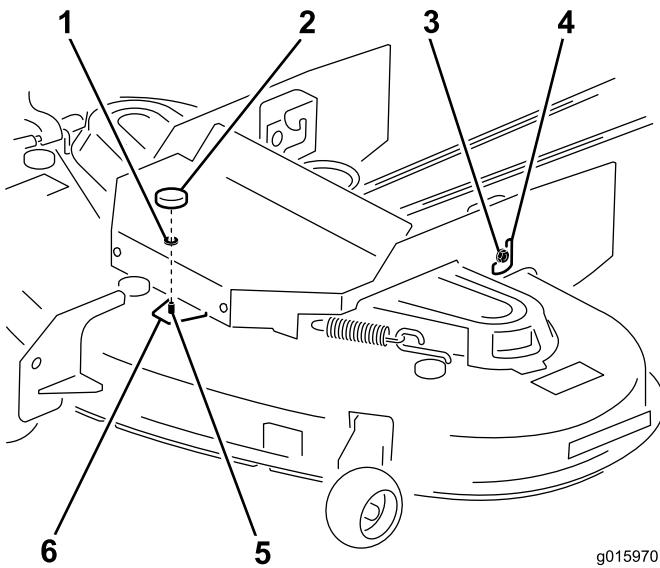

Figure 3
- A. Attach the tab at the front of the guard to the deck using the existing bolt, washer and knob that you just set aside; see Figure 3.
1. Washer, existing	4. Rear slots, pair (2)
3. Flange nut, existing (2)	6. Tab
- B. For each side of the guard, insert the previously loosened flange nut through the large opening and slide the bolt into the slot that fits best (Figure 3).